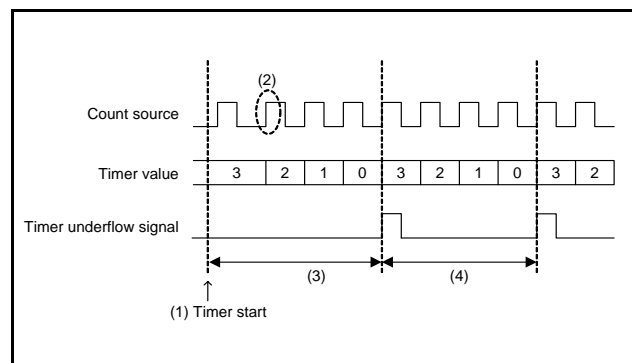

**Fig 71. Timer count start timing and count time when operation starts (1)**
**(18) Prescaler, timer 1 count start timing and count time when operation starts**
Count starts from the first rising edge of the count source (2) in Figure 71 after prescaler and timer operations start (1) in Figure 71.
Time to first underflow (3) in Figure 71 is shorter (for up to 1 period of the count source) than time among next underflow (4) in Figure 71 by the timing to start the timer and count source operations after count starts.